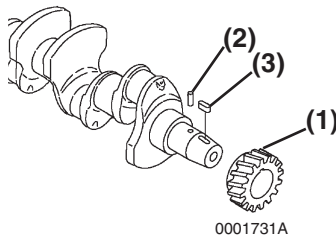

Figure 6-110
8. If necessary, remove the crankshaft gear (**Figure 6-110, (1)**), parallel pin (**Figure 6-110, (2)**) and key (**Figure 6-110, (3)**). If using a gear puller, be careful not to damage the threads in the end of the crankshaft.